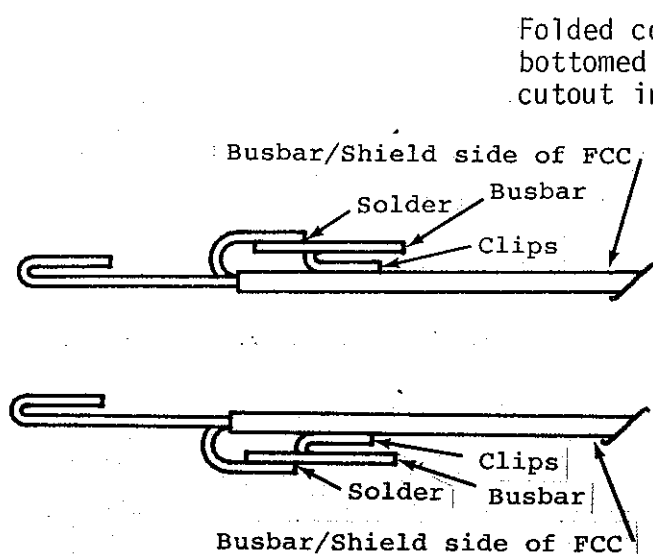

Figure 3B. Soldering FCC Conductors to Busbar
* Busbar clips are to face toward the FCC insulation (Figure 3B).